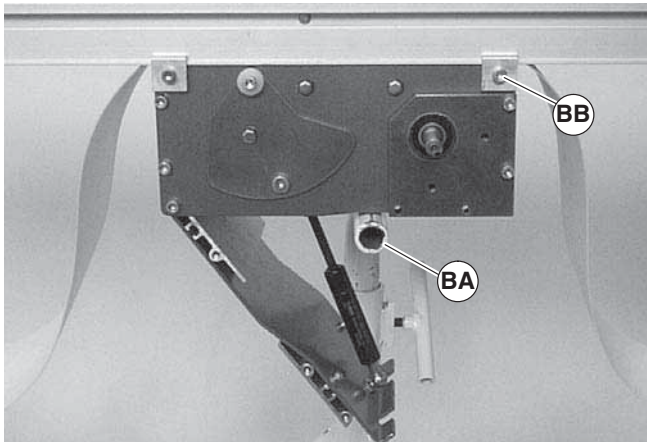

Figure 26
1. Place temporary support (Figure 26, item BA) underneath the drive module.
5. Install the drive module onto the conveyor and attach clamps (Figure 26, item BB) in each corner. Tighten screws to 80 in-lb (9 Nm).